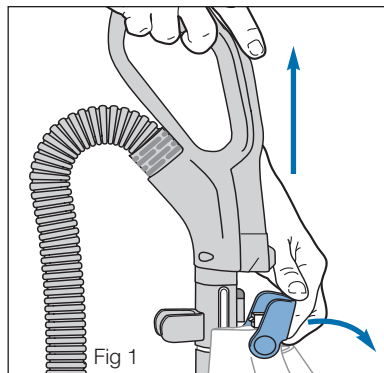

Fig 1
- Remove wand from back of vacuum; push handle onto wand until it clicks (Fig. 1).
To use accessories: With Quick Release handle in upright position, rotate handle release latch forward, then lift handle and pull away from vacuum cleaner body (Fig. 1).